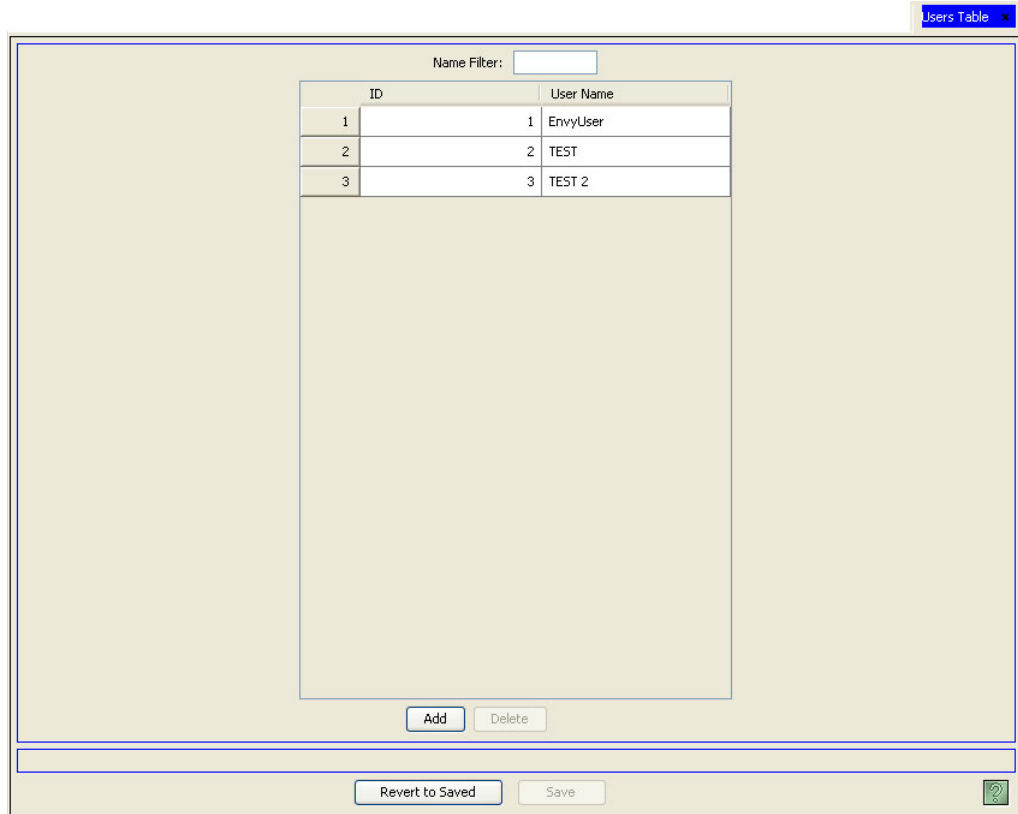

Figure 19-4. Users Table
- 1 From the Navigation area, select the 'Views' pane and then 'Users'. The 'Users' table appears, as shown in Figure 19-4.